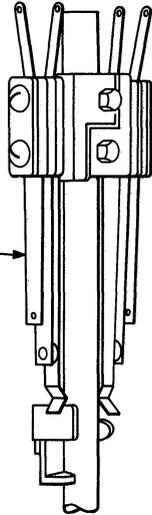

Fig. 10 — Normal Post Spring Assembly Operated by Shaft Spring Bracket
4. For 197AF, 197AG, 197AH, 197AJ, 197BB, 197BN, 197BS, and D-91385 switches having normal post springs per Fig. 10.
5. For 197P, 197R, 197AD, 197AE, 197AY, 197BD, 197BP, and 197BR switches having normal post springs per Fig. 10.